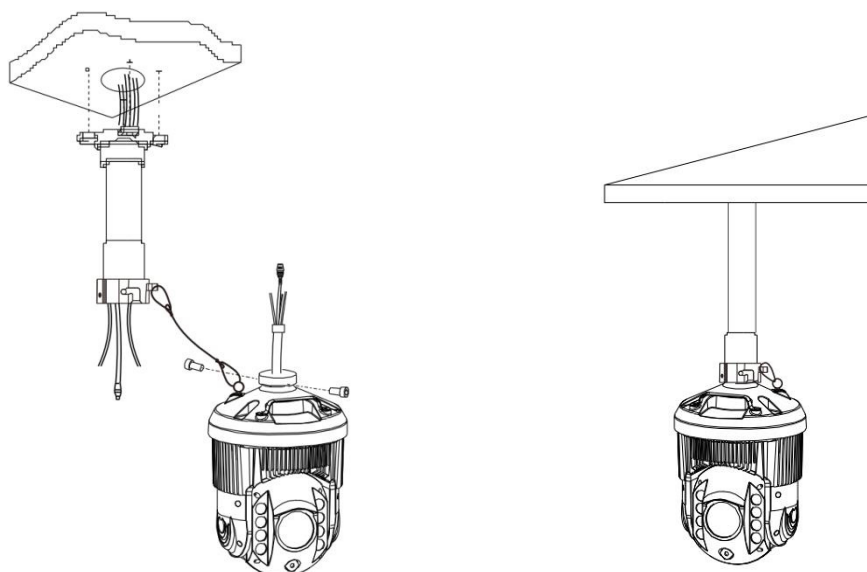

Figure 1-3-9 Figure 1-3-10
(1) Accessories: boom (load bearing 15kg).
(2) Installation preparation.
a. As shown in Figure 1-3-9, use the hanging rod mounting hole and cable outlet hole as a template, draw the hole location on the wall, drill the hole, and fix it first, then install the flange plate on the top of the wall, and install it in sequence. Boom, connecting nut, adapter. The power supply, network and other signal lines that need to be connected to the dome machine should be passed through the wall hole to be connected.